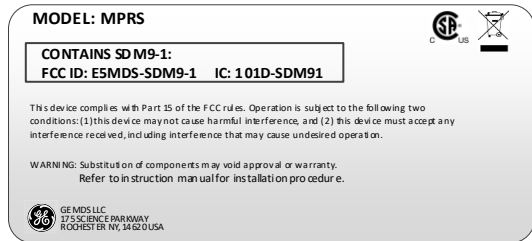

Figure 6: Label listing modules contained
- The Master Station Chassis includes label as shown in Figure 6.
The Master Station Chassis of Figure 2 shall include the following text on the label and as shown in Figure 6, below: